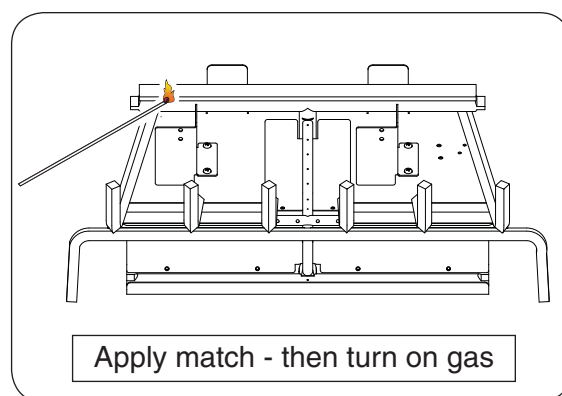

Fig. 15-1
3. Lay a lighted long-stem match on the center of the top burner (**do not hold the match in your hand**) or use a lighted long-necked butane lighter (Fig. 15-1).